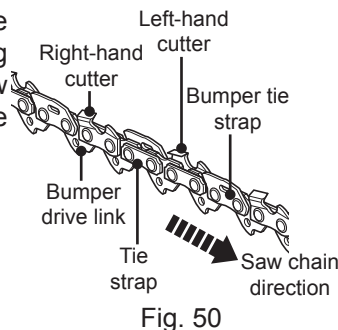

Fig. 50
- > Have your chain (3) sharpened professionally at an authorised service centre or sharpen the chain yourself using a proper sharpening kit. Also observe the sharpening instructions supplied with the sharpening kit.
- > The height difference between the tooth and the ridge is the cutting depth. When sharpening the saw chain (3) you have to consider the following points (Fig. 50).